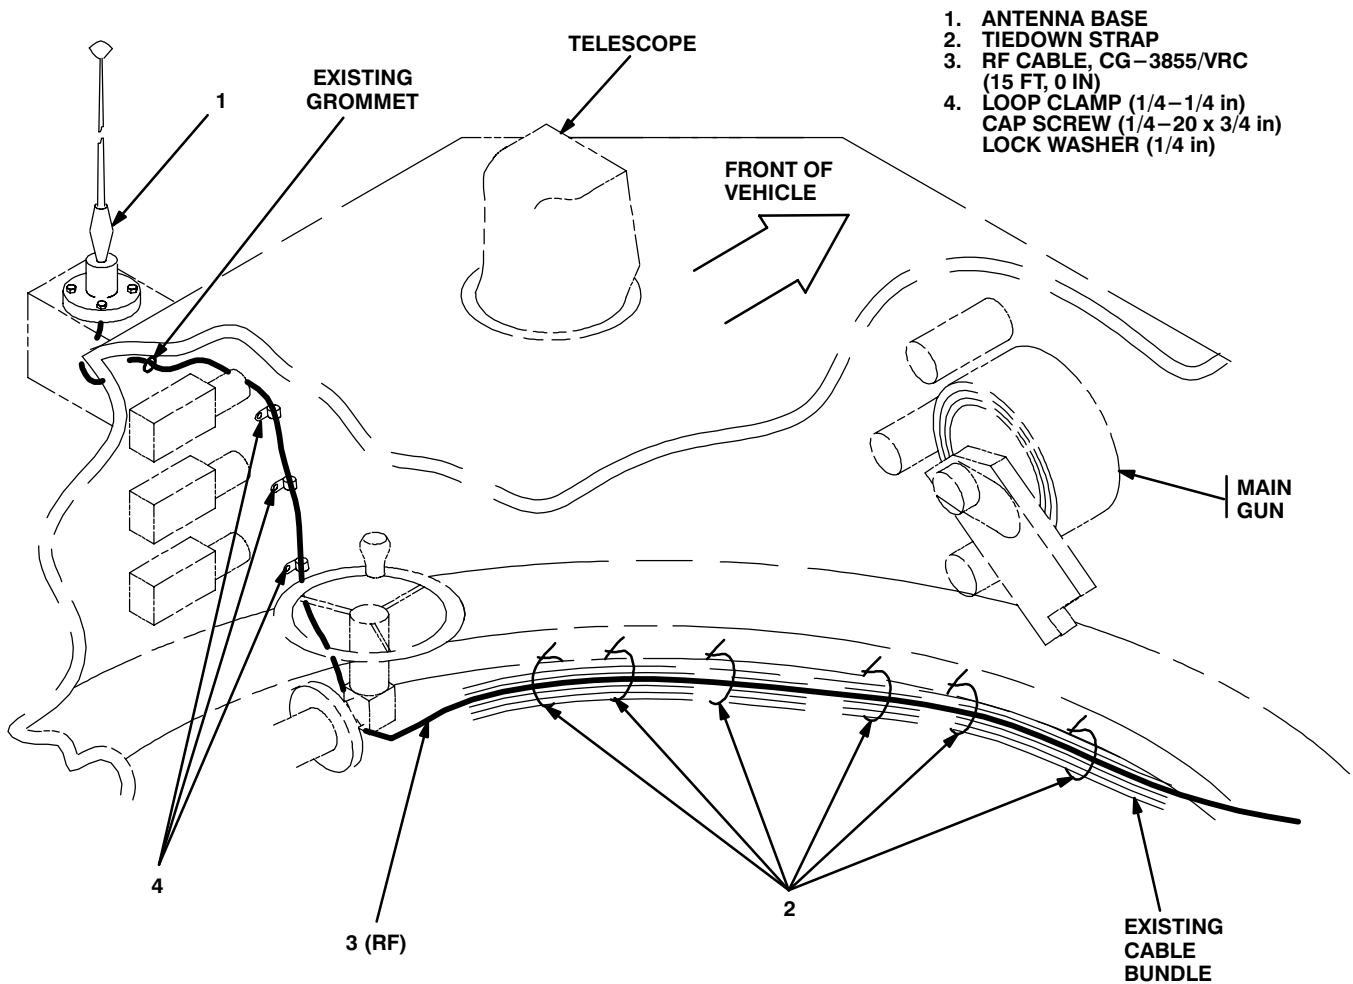

Figure 5-5 (2). Cable Installation: Roadside Antenna
r. RF cable (1).	Route along turret behind existing power conditioning unit, behind existing AM-1780/VRC, and around left side of mounting base (3). See figure 5-5 (3).
s. RF cable (1) connector P2.	Position on mounting base (3).
t. Existing power cable from power conditioning unit.	Route behind existing AM-1780/VRC and connect to J1 on mounting base (3).
u. Two tiedown straps (2).	Wrap around existing power cable and secure to RF cable (1).
v. SP cable (4) connector P1.	Connect and secure to AM-1780/VRC connector J501.
w. SP cable (4).	Route from AM-1780/VRC to back of mounting base (3).